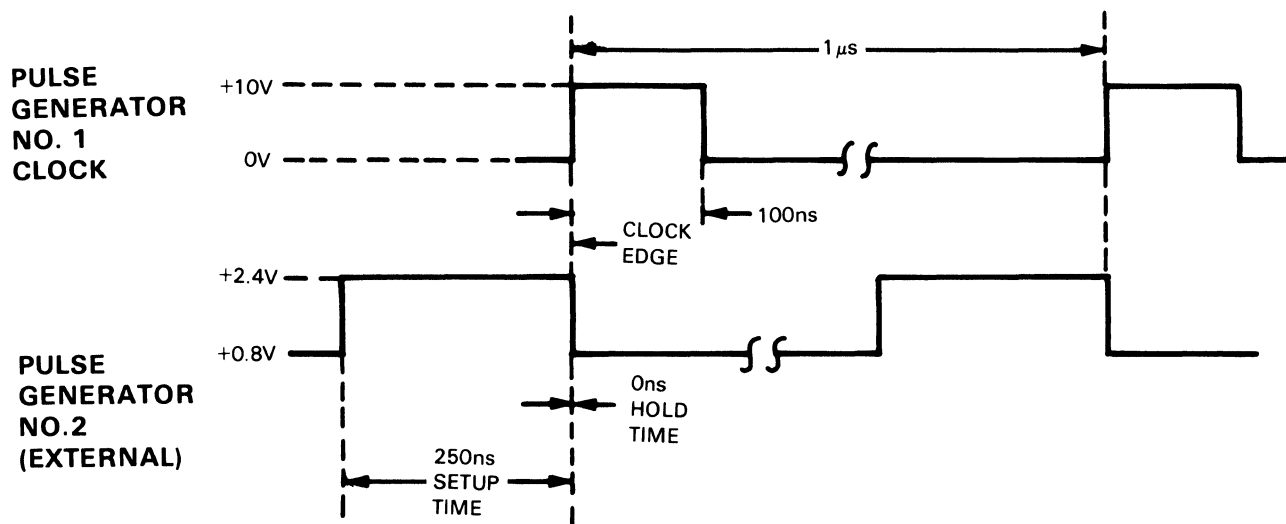

Figure 4-15. External Lines Test Waveforms
- Adjust pulse generators for waveforms shown in figure 4-15.